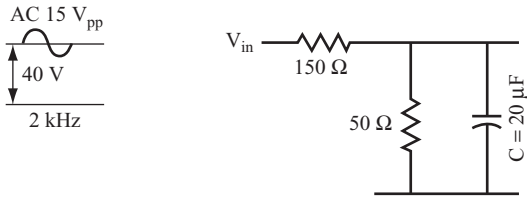

FIGURE 6.57
5. Use the circuit shown in Figure 6.57.